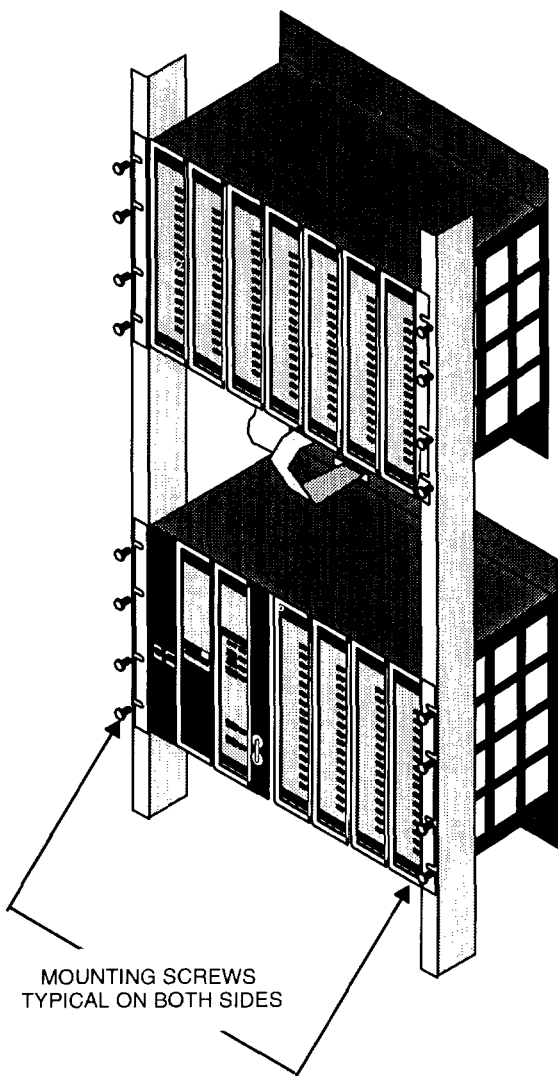

Figure 24 Rack Mounting Your Housing
Step 4 To attach the module housing to the rack as shown in Figure 24, lift the empty module housing to its mount position in the rack and insert the mounting screws. Use #10–32 pan head screws to attach the module housing to the rack. Install cable troughs for all Remote I/O modules.